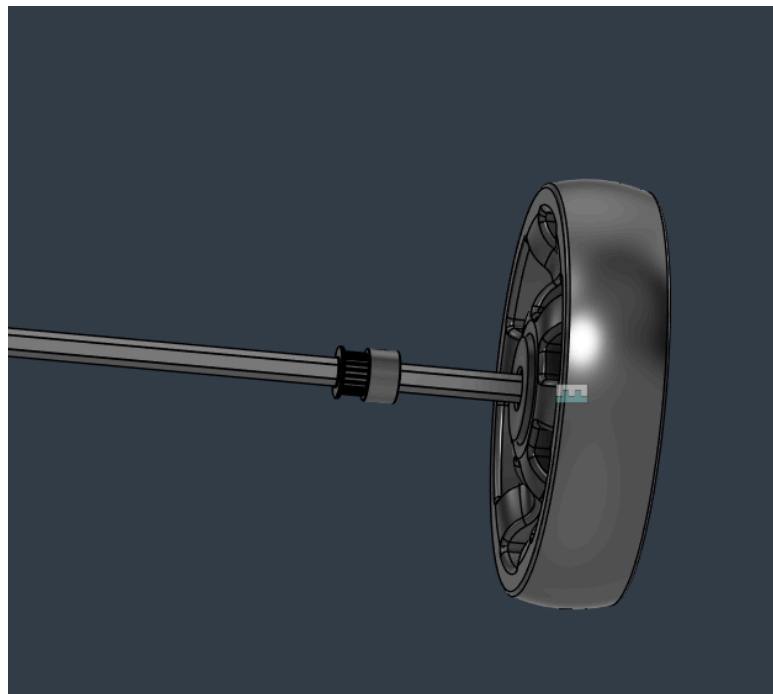

Figure G.8: 40-tooth Pulley installed
9. Install the 40-tooth pulley onto the axle from the end and loop the belt around it as shown in Figure G.8